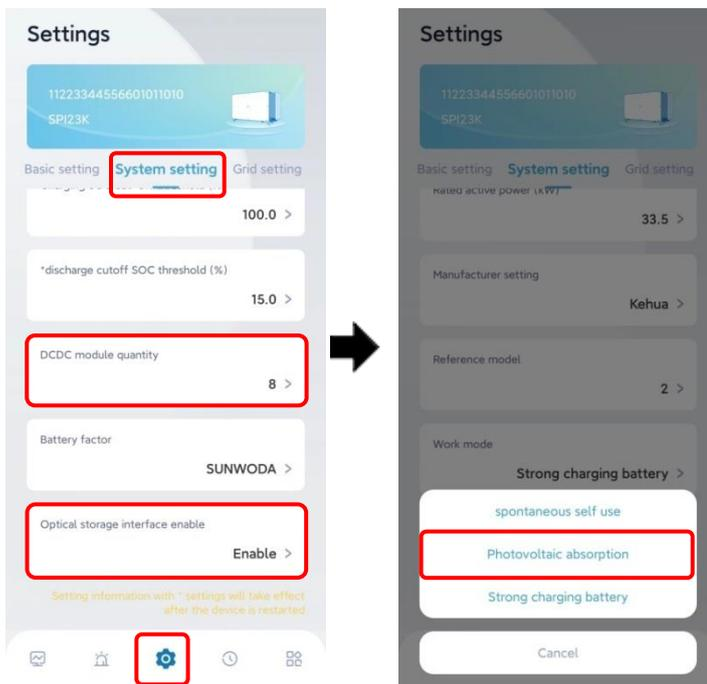

Figure4-12 DCDC module quantity and work mode setting
Step 1 In the device list of main page, click the device with matching SN. In the device page, click  icon, select **System setting**, set the **DCDC module quantity** according to the battery quantity, set the **Optical storage interface enable** to **enable**, and set the **work mode** to **Photovoltaic absorption**, as shown in Figure4-12.